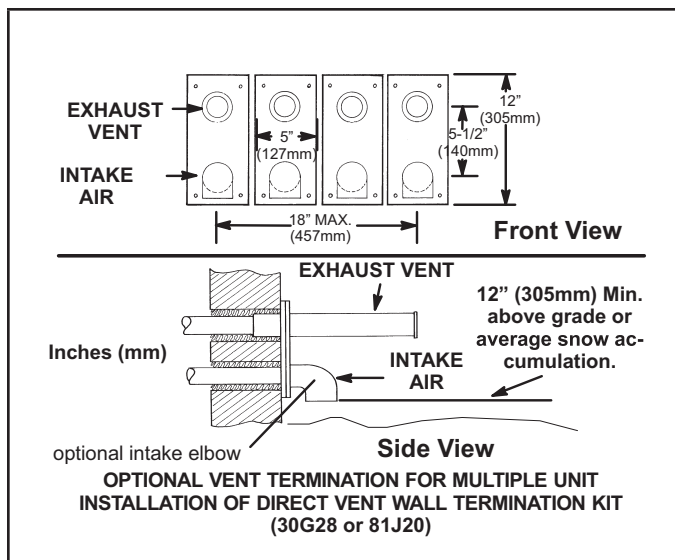

FIGURE 35
- 8 - Based on the recommendation of the manufacturer, a multiple furnace installation may use a group of up to four terminations assembled together horizontally, as shown in FIGURE 35.